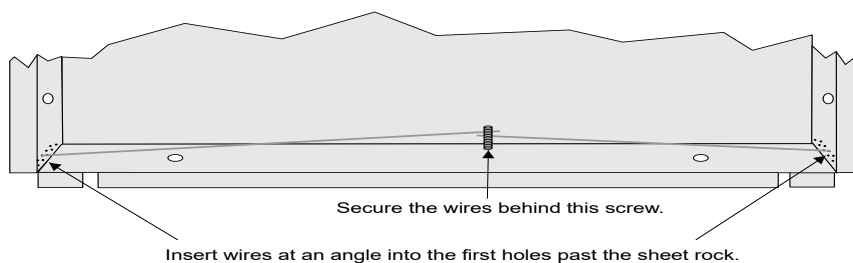

Figure 4.22 Flush Mounting the Back Box
3. Fit the annunciator back box into the hole and stabilize with mounting wires. Angle the mounting wires into the first hole past the sheet rock. Secure the wires behind the screws as shown in Figure 4.22. When all four wires are in place, the back box should fit snugly into the hole in the sheet rock.